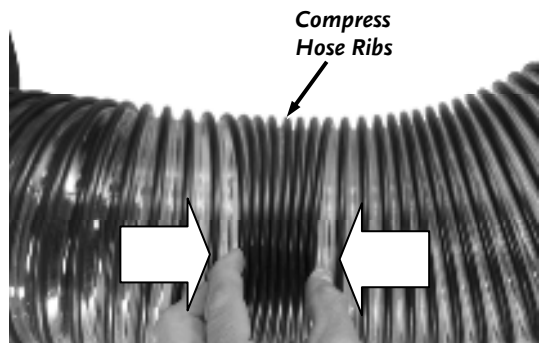

Figure 57
- a. Compress the Hose Ribs together as much as you can without stretching the Hose too much (**Figure 57**). If more than 6 Ribs can be easily compressed, the Hose should be shortened.